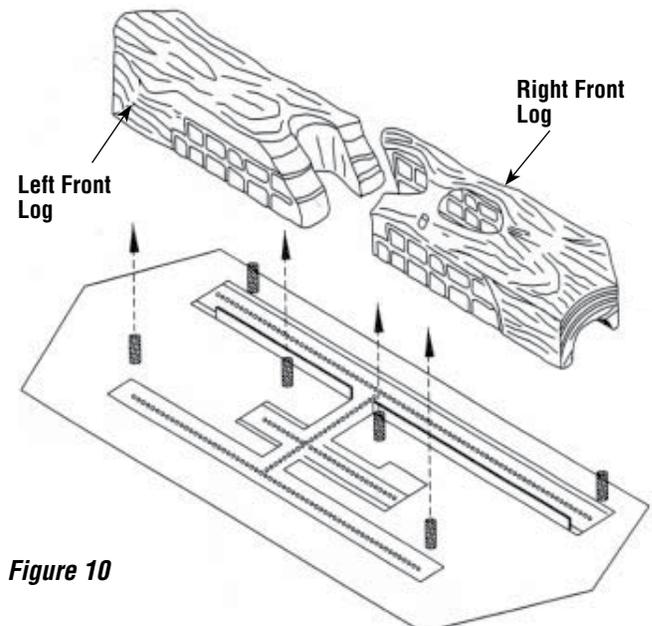

Figure 10
3. Place the left front log, with the charred surface forward, (see **Figure 10**) on the two left front locating pins. Next place the right front log, with the charred surface forward, on the two right front locating pins.